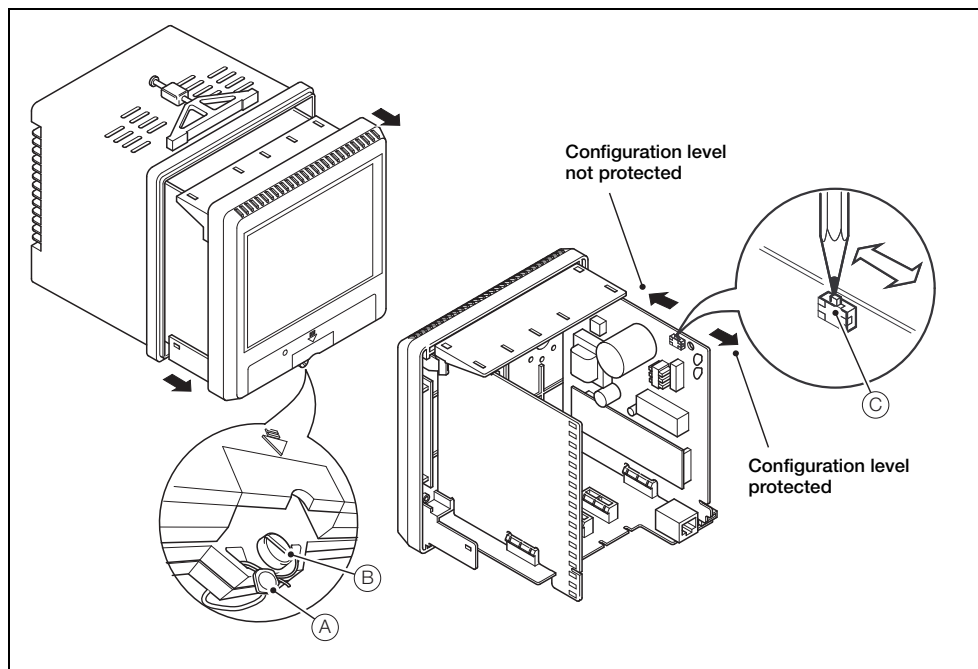

Fig. 8.3 Setting the security switch
The **Configuration** level cannot be accessed until the internal switch set to the 'Configuration level not protected' position – see Fig. 8.3, page 64.
Internal security switch setting (see Fig. 8.3)	Configuration security parameter setting
1. Set the internal security switch to the 'Configuration level not protected' position – see Fig. 8.3, page 64.
Referring to Fig. 8.3, set the internal security switch as follows: